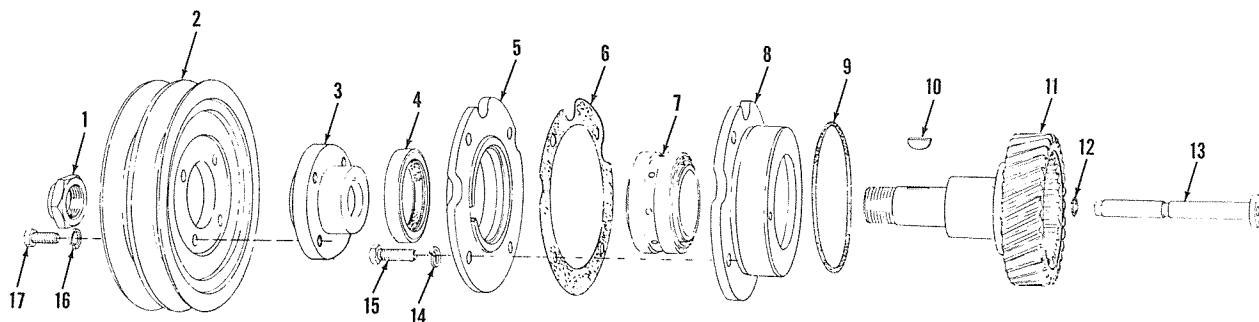

Fig. 11 — Fan Drive Details (Track-Type Tractor Engines
- e. Turn pulley assembly over and place a suitable sleeve between inner race of front ball bearing (6) and bed plate of the press, then press lever assembly (11) into position in pulley assembly.
- f. Install slotted nut (5) and tighten securely, then install cotter pin (4).
- g. Install cover gasket (2) and pulley cover (1). Fill tightener with clean ball and roller bearing lubricant through lubricating fitting.
1. FAN DRIVE REMOVAL (Fig. 11)
- b. Remove capscrews, Fig. 11 (17) and lockwashers (16) and remove pulley (2) from mounting flange (3).
- c. Remove capscrews (15) and lockwashers (14) and remove fan drive assembly from timing gear housing cover.
2. FAN DRIVE DISASSEMBLY AND INSPECTION (Fig. 11)
- a. Remove retaining nut (1) and drive timing shaft (13) from fan drive gear (11).
- b. Using suitable puller tools, remove pulley mounting flange (3). Remove woodruff key (10).
- c. Remove flange (5) from bearing retainer (8).
- d. Press fan drive gear (11) from bearing retainer (8).
- e. Drive or press roller bearing (7) from bearing retainer (8).